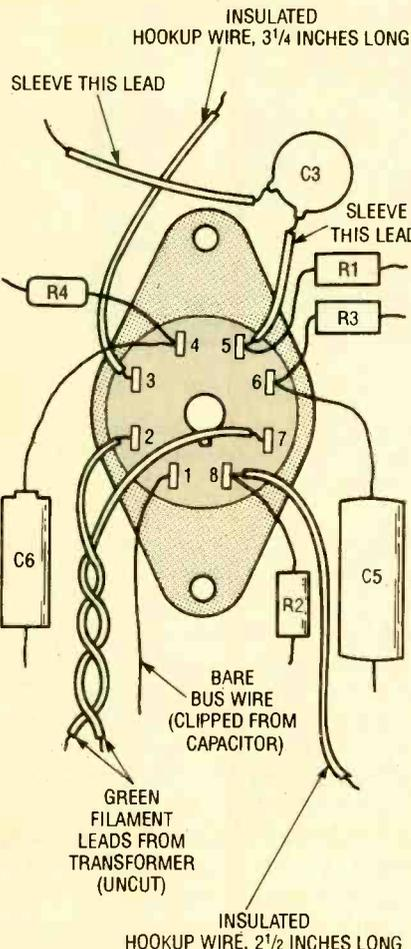

Fig. 5. Before mounting the tube socket on the board, wire C3, C5, C6, R1-R4, and the three connecting wires to the socket.
The wooden dowel acts like a pedestal, and provides the necessary clearance between the socket terminals and the surface of the baseboard. The socket should be a molded bakelite type and not the phenolic wafer type. Screw the dowel section to the baseboard using a #6 x 3/4-inch sheet-metal screw. Rest the socket on top of the spacer with the keyway pointed in the same direction as shown in Fig. 5. Place two marks on the board directly under the holes in the metal saddle that surrounds the socket. Use those marks to locate two 3/32-inch pilot holes in the baseboard. When the time comes to mount the socket, two long screws in those holes will hold the socket securely on top of the wooden spacer.
**Wiring the Tube Socket.** It is much easier to wire the tube socket before it is mounted on the board than it is to do so afterward. For that reason, we'll now focus our attention on accomplishing that task. Begin by turning the socket upside down, so that its solder lugs are facing upward, and connect all of the leads shown in Fig. 5. Be sure the keyway is pointed in the direction shown, so that the parts that are to be connected to the socket subassembly line up properly with the parts on the baseboard.